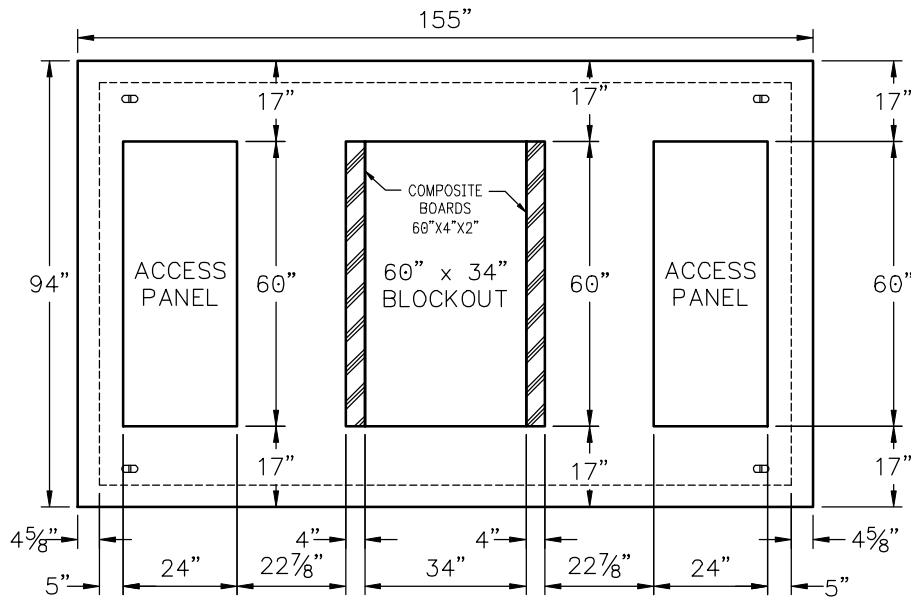
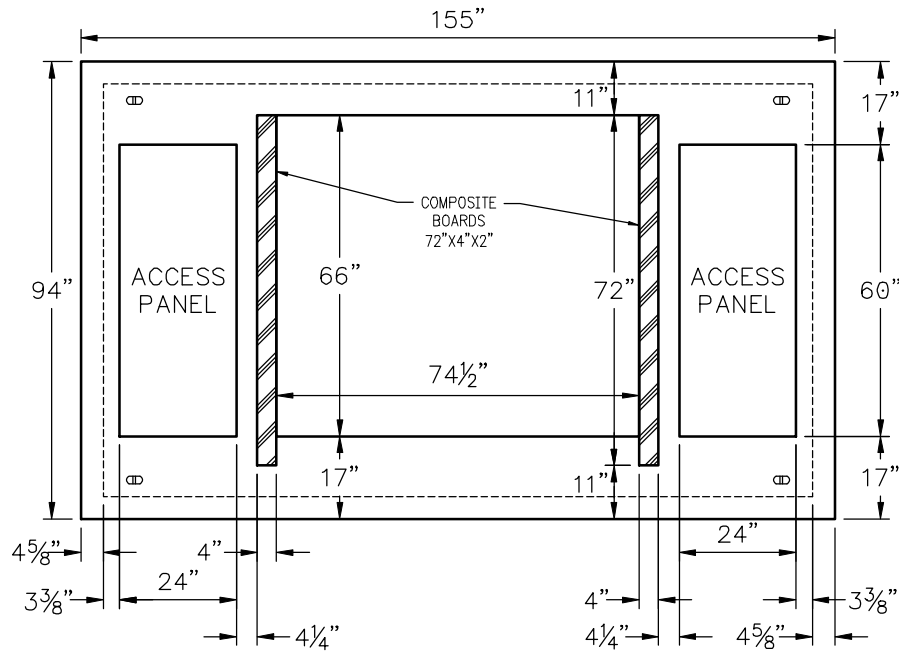

Figure 2—Padvault Pad Layout (SI# 7992790) for 15/25 kV, 600-Amp Type-3 Switchgear with 1000kcmil cable
Figure 4—Padvault Pad Layout (SI# 7992789) for 25 kV, 600-Amp Type-9/11 Switchgear
Figure 2 through Figure 4 show the layouts of the padvault lids defined in this specification.
The padvault supplier shall provide two (2) 2" × 4" (actual size no less than 1.5" × 3.5") composite boards for dead front switchgears such as PME or PSE. Boards shall be cast flush with the top of the padvault lid at locations specified in Figure 2 through Figure 4. Hardware to fasten the switchgear to the composite board shall be provided as follows: